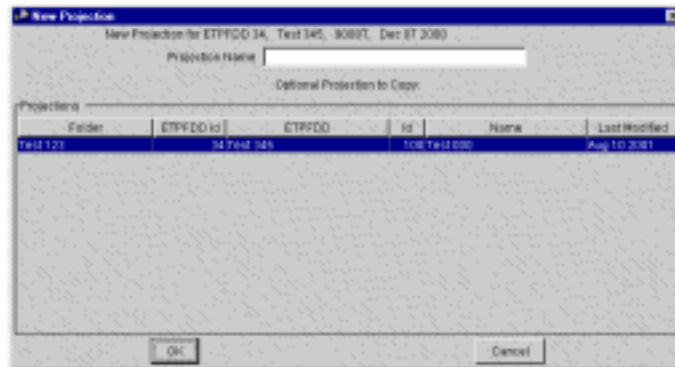

Figure 5.222 New Projection Window
2. On the ETEdit (main) window, on the Projection menu, click the New command. The New Projection window opens (Figure 5.222).